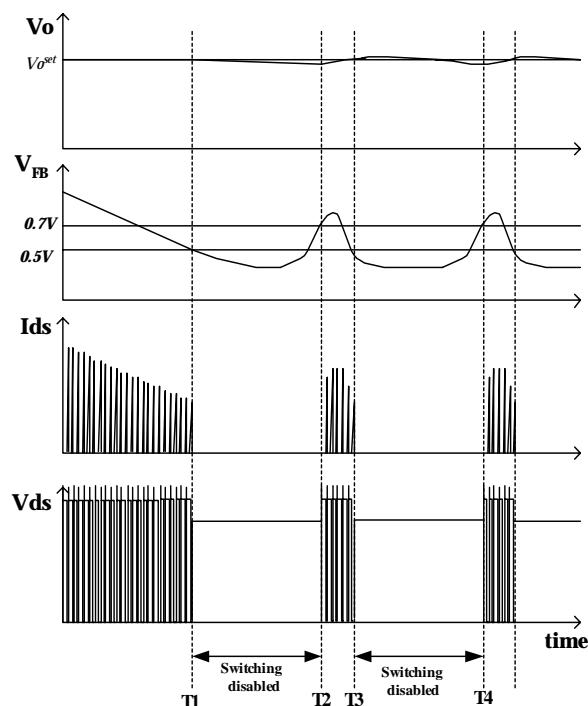

Figure 9. Waveforms of burst operation
5. Burst operation : In order to minimize power dissipation in standby mode, the FPSTM enters burst mode operation. As the load decreases, the feedback voltage decreases. As shown in figure 9, the device automatically enters burst mode when the feedback voltage drops below $V_{BURL}(500mV)$. At this point switching stops and the output voltages start to drop at a rate dependent on standby current load. This causes the feedback voltage to rise. Once it passes $V_{BURH}(700mV)$ switching resumes. The feedback voltage then falls and the process repeats. Burst mode operation alternately enables and disables switching of the power Sense FET thereby reducing switching loss in Standby mode.